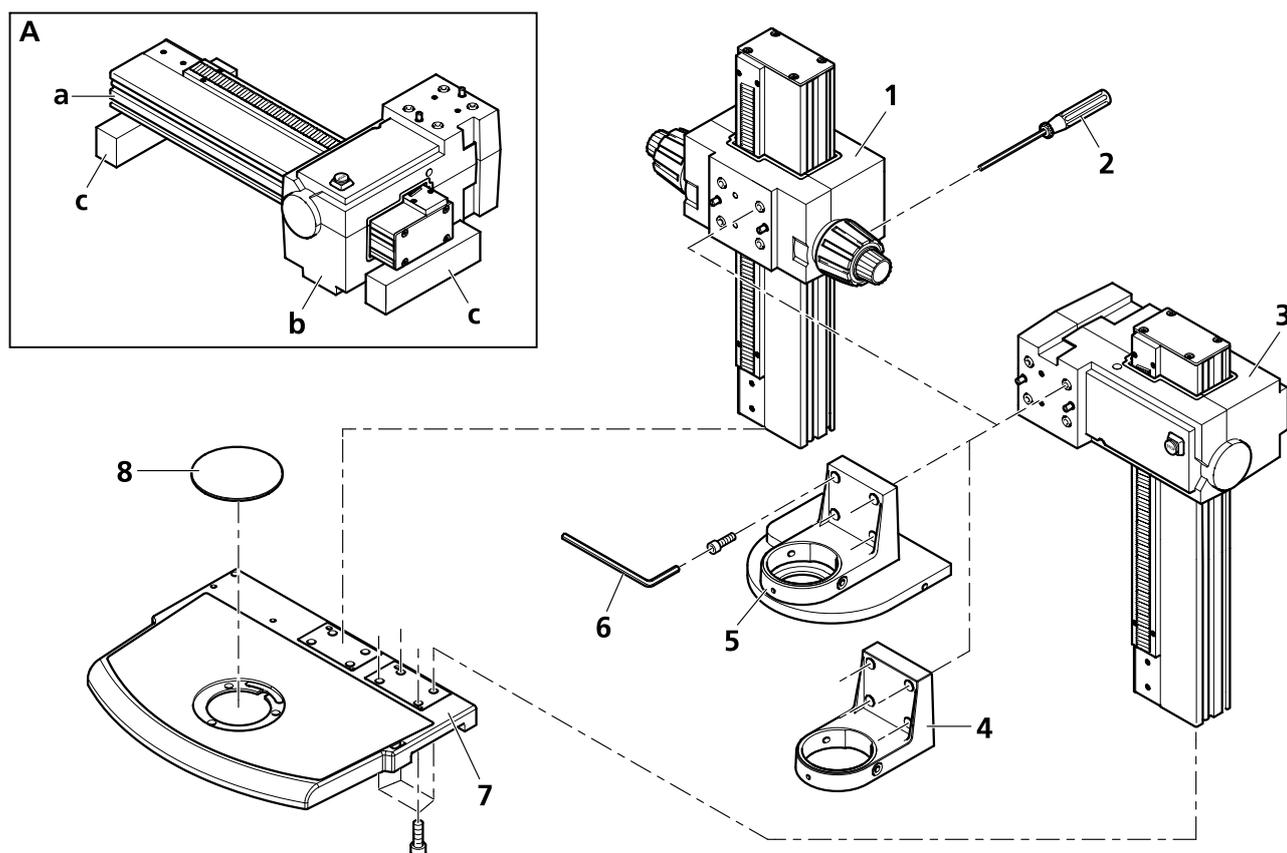

Fig. 12 Setting up the stand
To avoid any damage to the motorized focusing drive (Fig. 12/A), put it down only on the **back** of the column (Fig. 12/a) using sufficiently high supporting blocks (Fig. 12/c) (do **not** put it onto the rack side). The focusing unit (Fig. 12/b) of the focusing drive must not be used as support. Do not lift or carry the focusing drive by holding it at the focusing unit (Fig. 12/b)! Avoid heavy shocks to the focusing drive.
- Attach the column of the *motorized focusing drives* (Fig. 12/3) to the **right** mounting surface of the stand base (Fig. 12/7) or the column of the *manual focusing drive* (Fig. 12/1) to the **left** mounting surface and let the two locating screws click into place.
- Screw on the column tightly by screwing four Allen screws (SW 8) through the stand base (Fig. 12/7).
- Set up stand base (Fig. 12/7) with screwed on column.
- Put carrier (Fig. 12/4) or objective nosepiece (Fig. 12/5) onto the focusing drive letting the two locating screws click into place and keeping hold of the respective unit until the first screw has been tightened.
Mount the carrier (Fig. 12/4) rotated by 180° if you want to examine higher samples.
- Screw down all four Allen screws (SW 5). Use the long leg of the offset Allen key (Fig. 12/6) to screw the screws in, and the short leg to fasten them hand-tight.
- Insert 120 mm B/W plastic plate (Fig. 12/8); press on its rear edge to remove it again.
- Insert the supplied ball-headed screwdriver with SW 3 mm (Fig. 12/2) in one of the bores that are radially arranged on the torque-adjusting ring.